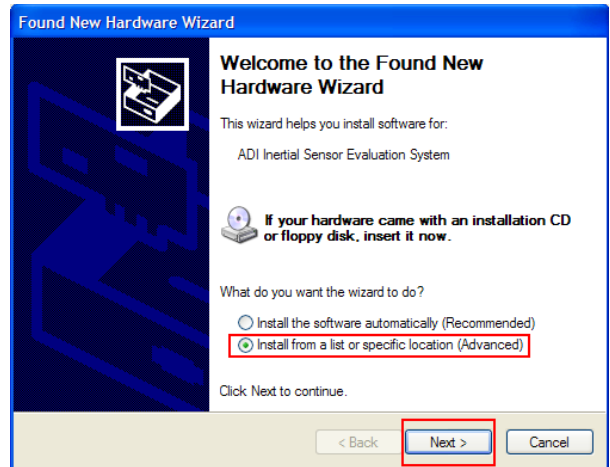

Figure 6. Found New Hardware Prompt
- If prompted to install drivers again, click **Install from a list or specific location (Advanced)** (see Figure 6); then click **Next**.